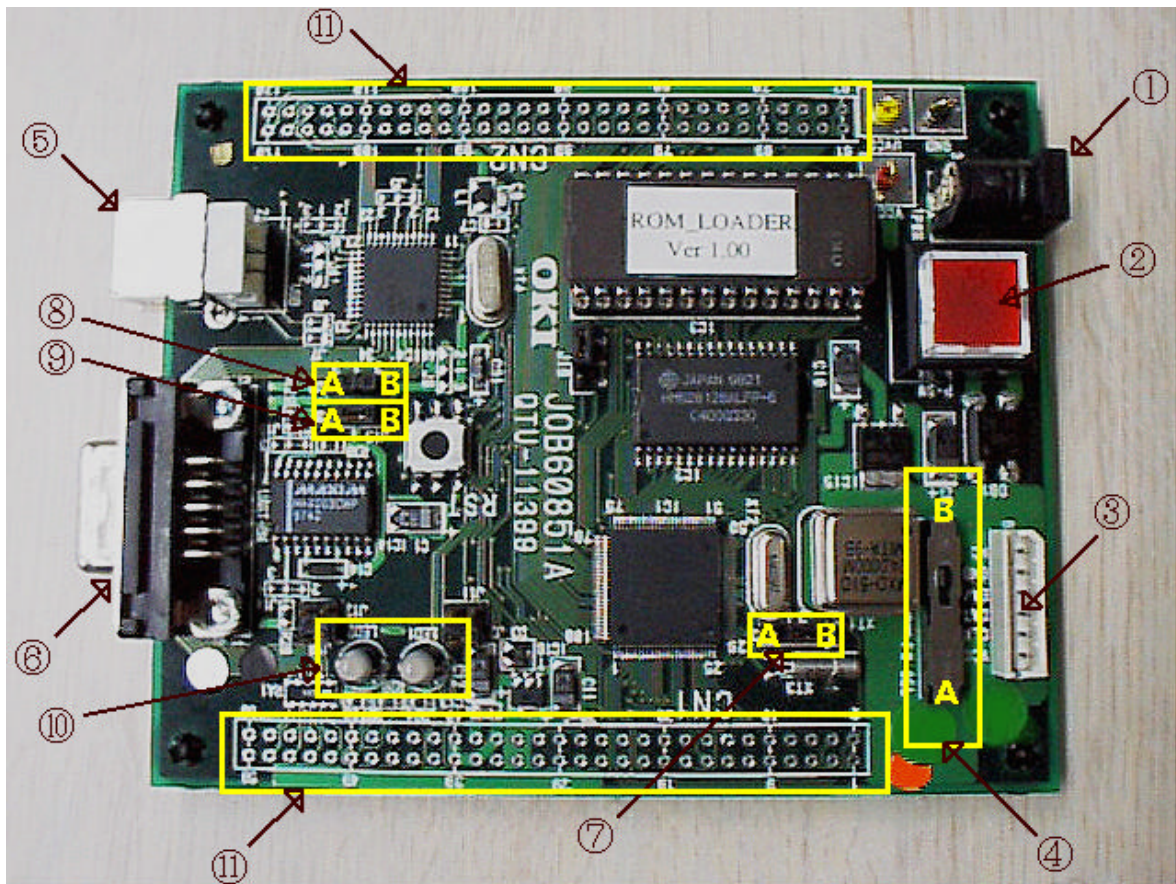

Figure 2.1.1. JOB60851 Board, Top View
Make sure that the switches and jumpers numbered 4, 7, 8, and 9 in Figure 2.1.1 are all in their factory default positions, B.
1. Make sure that the Flash writer selection switch (FW-SEL, #4 in Figure 2.1.1) is in its B position.
2. Plug the AC adapter into the jack (#1 in Figure 2.1.1) on the board. Make sure that the power (#2 in Figure 2.1.1) is OFF.
3. Plug one end of the USB cable into the connector (#5 in Figure 2.1.1) on the board. Connect the other end into the host controller.